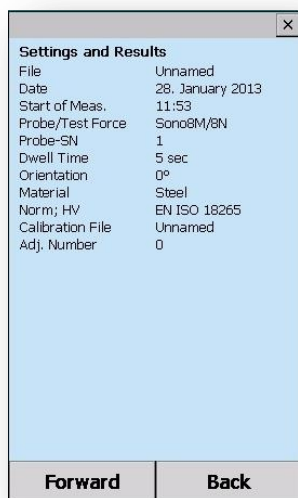
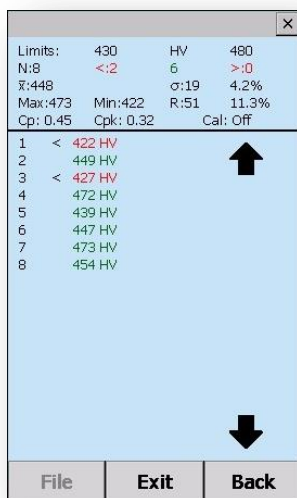
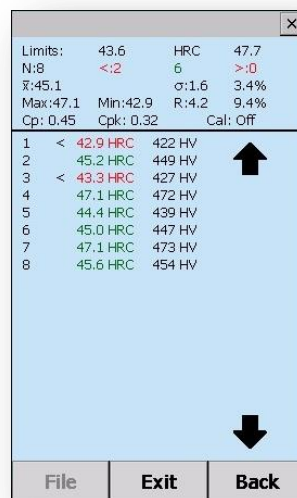

Figure 7.26
Figure 7.27
Figure 7.28
All relevant information is displayed at a glance (Figure 7.26) and via "Forward" button, information on the measurement results (Figure 7.27 and 7.28). Figure 7.27 shows the same result as Figure 7.28 with the only difference, that the original measurement values (HV) have been converted to HRC, whereas the results of the original scale are always carried along for information purpose. The relevant tolerance thresholds will be automatically converted from the original scale to the re-evaluated hardness scale along with the summarized results for the average value, overline X, mean error of individual measurement  $\sigma$ , range R, minimum and maximum.